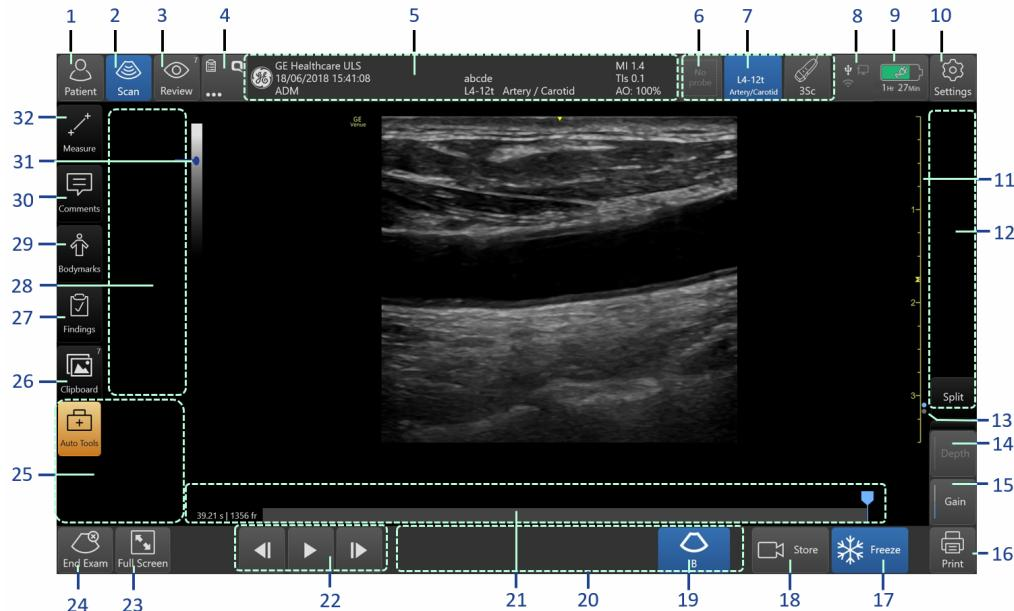

Figure 3-43. Exam function controls
When tapping the Simple Screen button (Figure 3-43, item 23) the image enlarges and some of the buttons are made smaller or completely disappear.
1. Tap **Patient** on the upper-left of the screen (Figure 3-43, item 1).